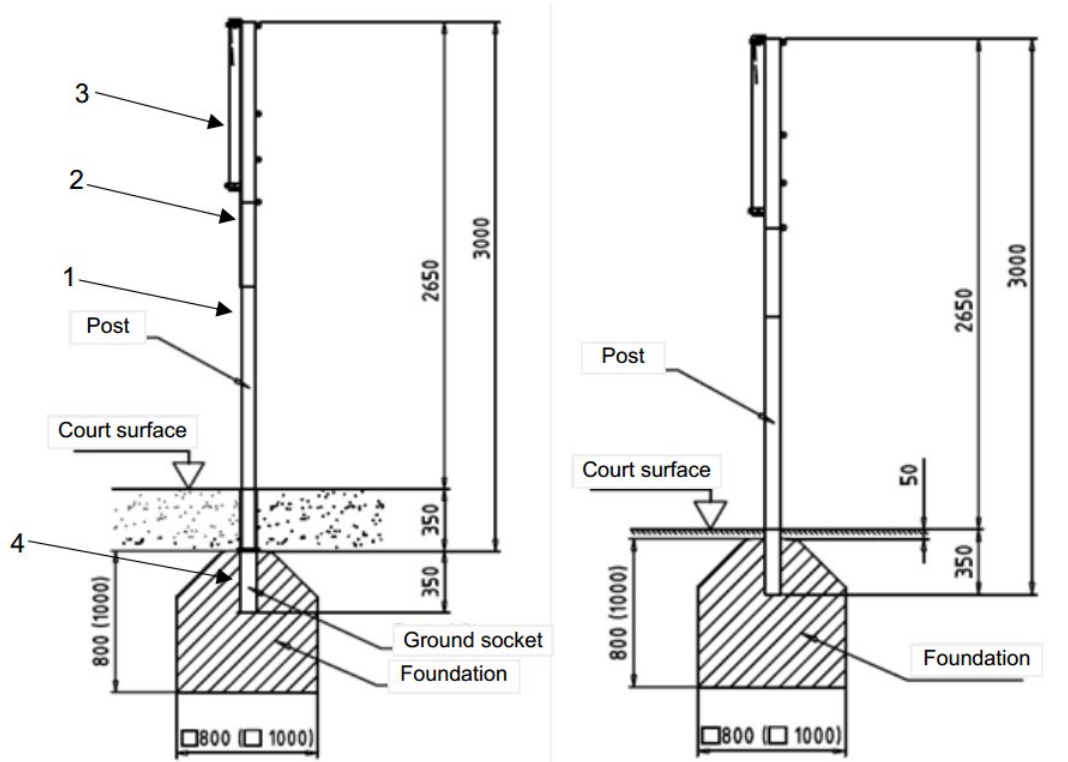

Figure 2: Assembly and foundation for DIN EN 1271 volleyball posts (with ground socket and set in concrete)
- Prepare the foundation for the base posts (as per the dimensions shown in figure 2). A load-bearing substrate is required to create the foundation. It should be about 80×80×80 cm (or about 100×100×100 cm if the ground is less dense, i.e. backfilled with soil).